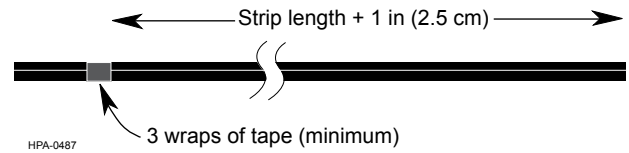

Figure 2
Step 3: Mark the cable at the appropriate distance, plus 1 in (2.5 cm), from the cable end with at least three wraps of tape (Figure 2). *These wraps will permanently remain on the cable.*